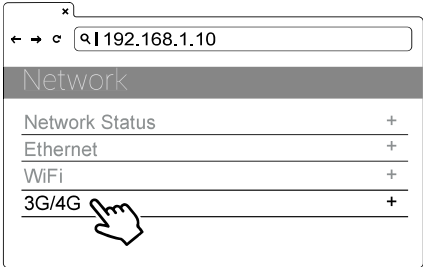

Figure 38. Network Select
- 4) Select: SET | Network | 3G/4G. See figure 38.